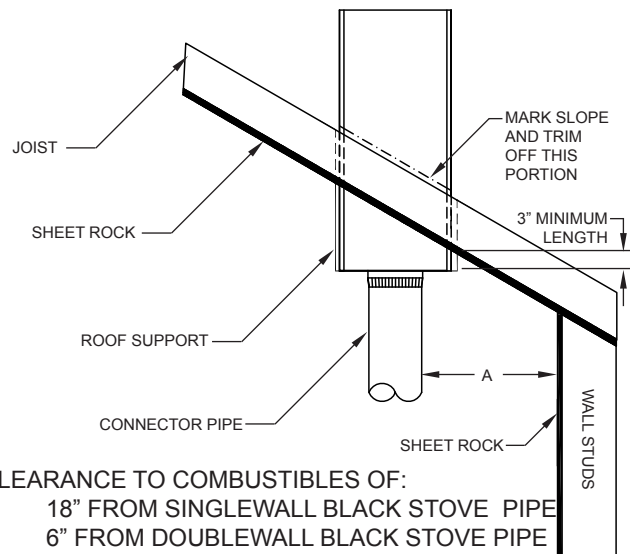

**FIG. 12**
3. Using framing lumber equal to ceiling joist size, frame opening as shown in **FIG. 12**. Framing that is perpendicular to the roof joists must also be vertically mounted so that support can be installed vertically.